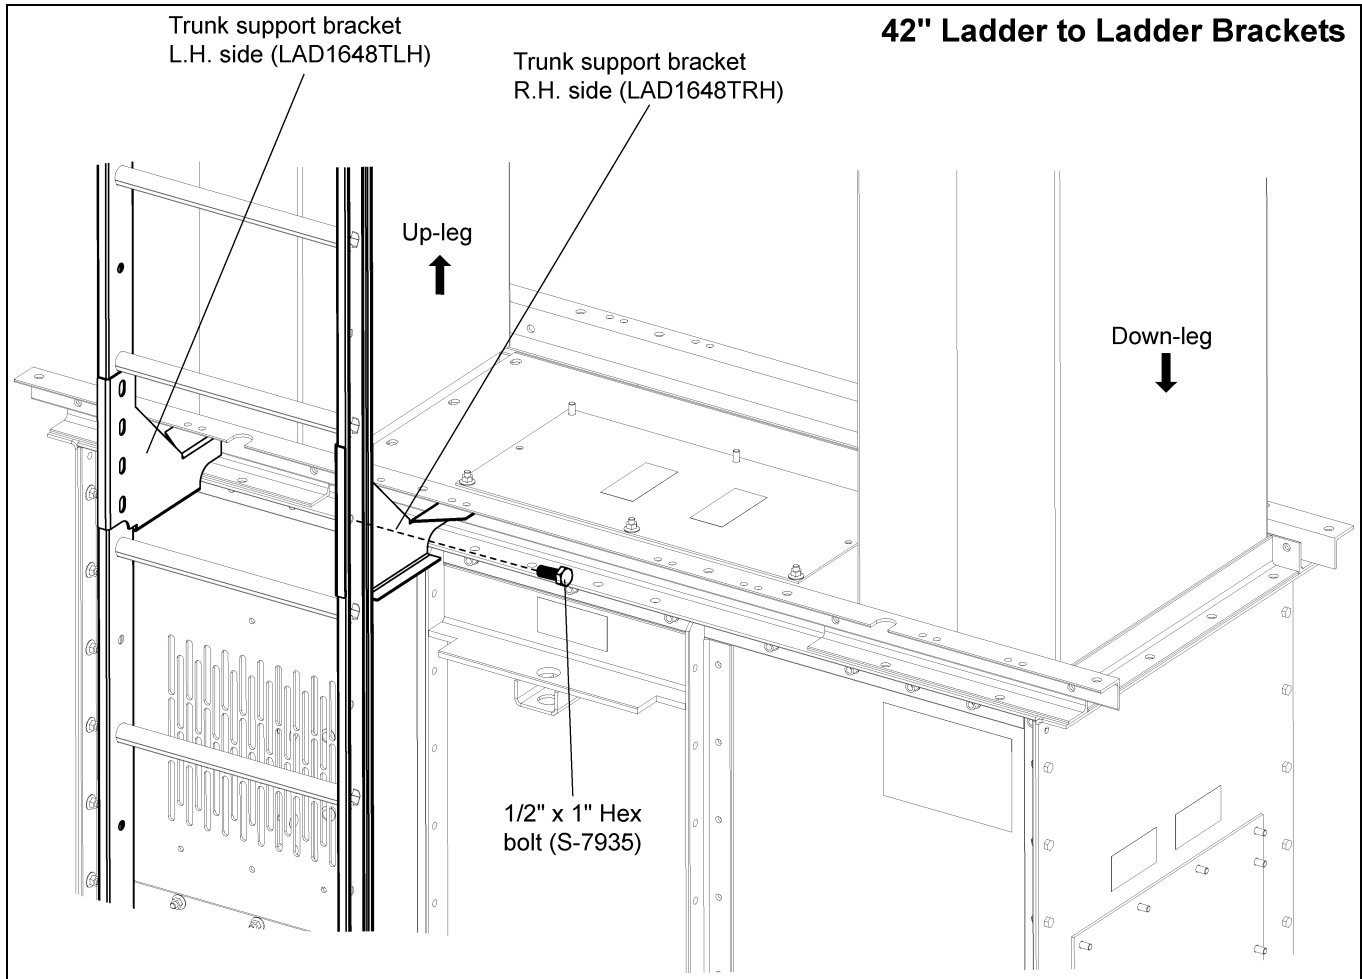
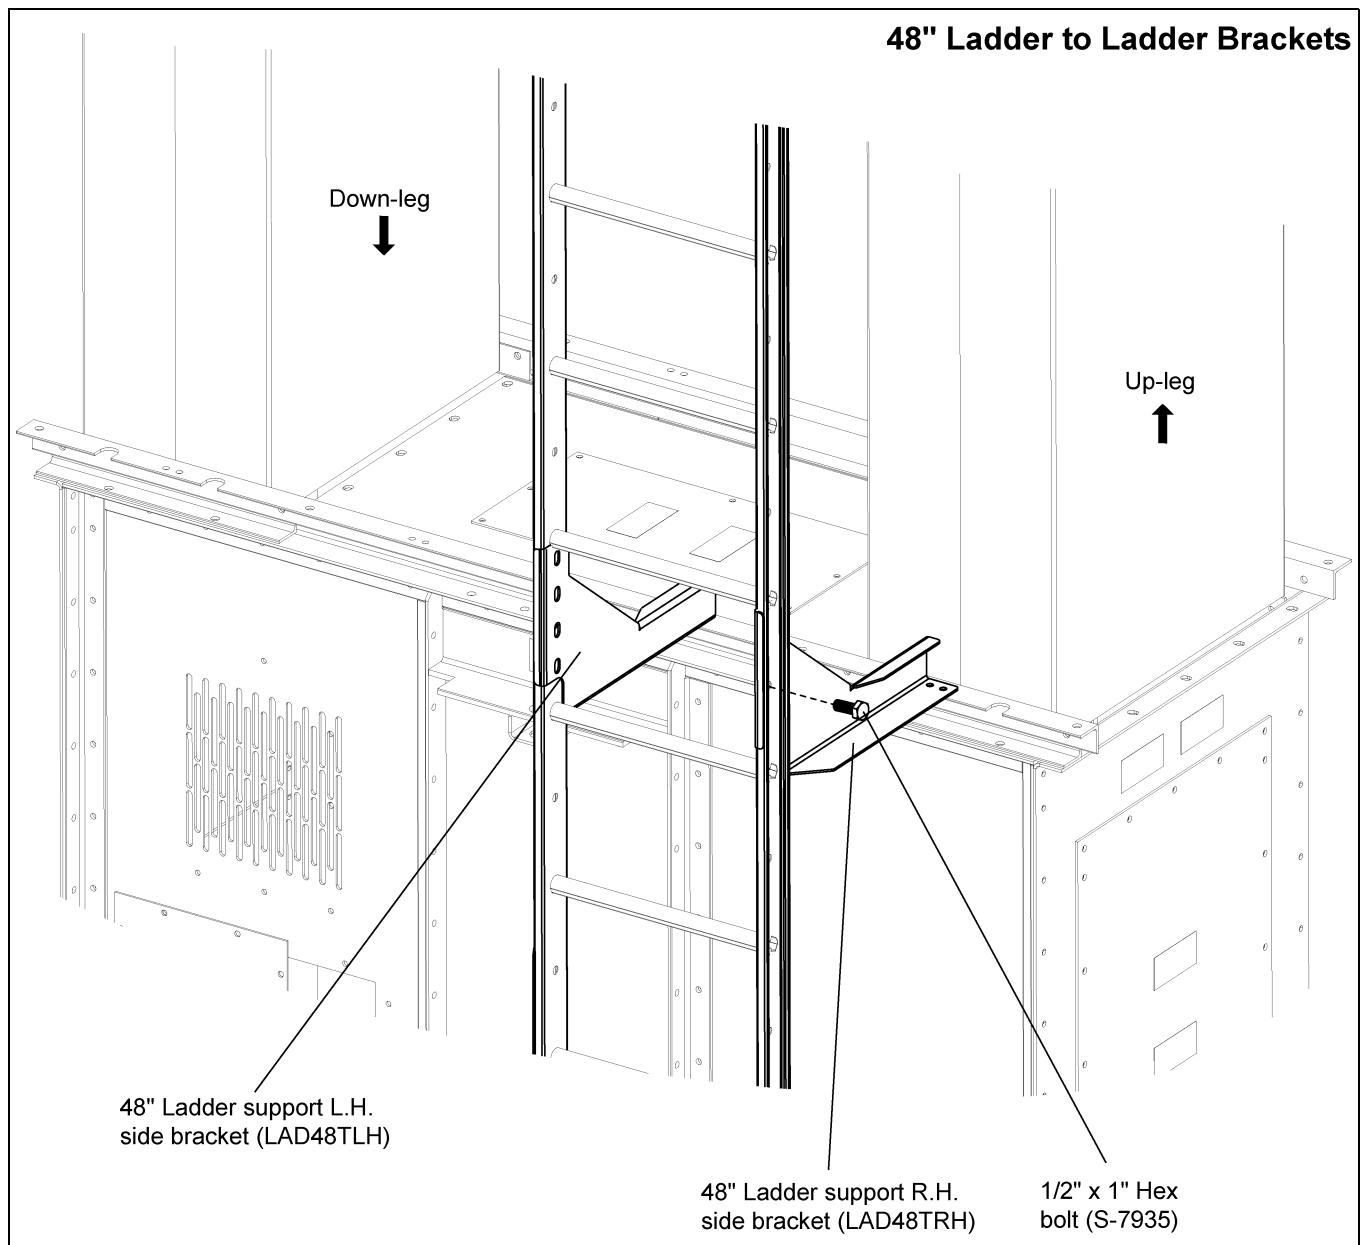

Figure 6H 42" Ladder to Ladder Brackets
Figure 6I 48" Ladder to Ladder Brackets
2. Attach trimmed ladder section to the left and right ladder brackets using 1/2" x 1" HHCS bolts (S-7935) and flange nuts (S-8506) through the bottom most set of bracket holes. (See Figure 6H below for 42" and Figure 6I on Page 26 for 48".)